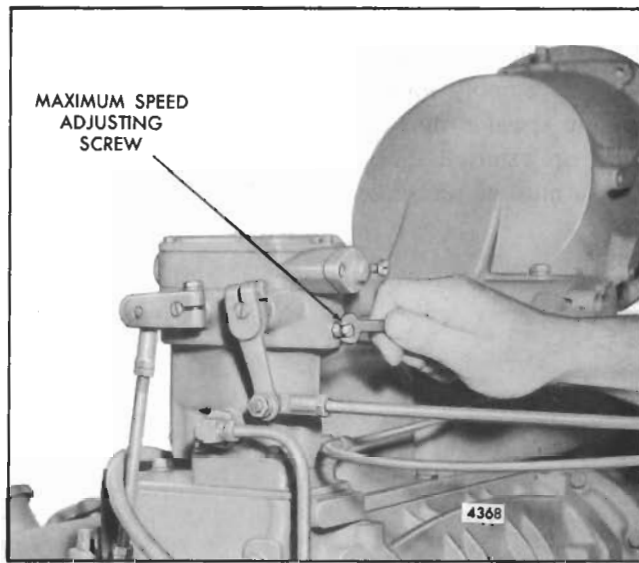

Fig. 9 - Adjusting Maximum No-Load Engine Speed
6. Loosen the lock nut on the maximum speed adjusting screw (Fig. 9) and turn the screw out until 5/8 " of the threads are exposed.
2. Turn the maximum speed adjusting screw (Fig. 9) in until the screw contacts the throttle linkage internally, limiting the maximum speed of the engine at 8% above the rated full load speed.